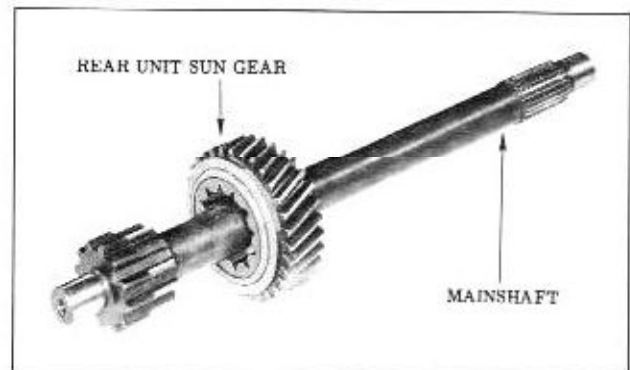

Fig. 3-111 Installing Sun Gear
26. Assemble rear unit sun gear to mainshaft, if removed, and install through rear carrier. (Fig. 3-111)